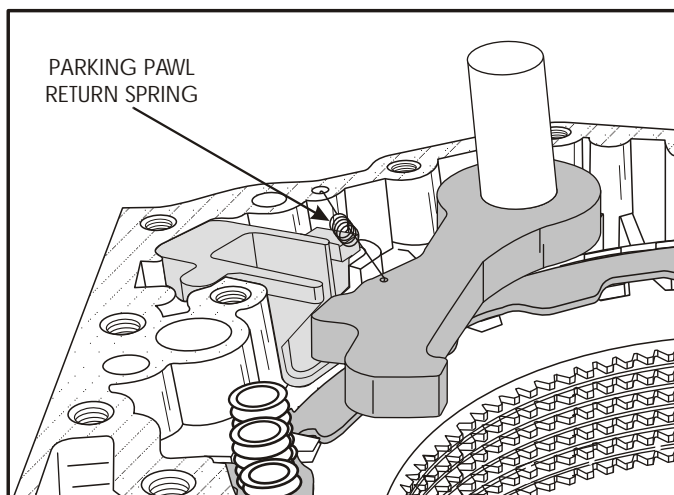

Figure 61
40. Remove the parking pawl by slight twisting motion to disconnect from the parking pawl return spring (See Figures 61 and 62).